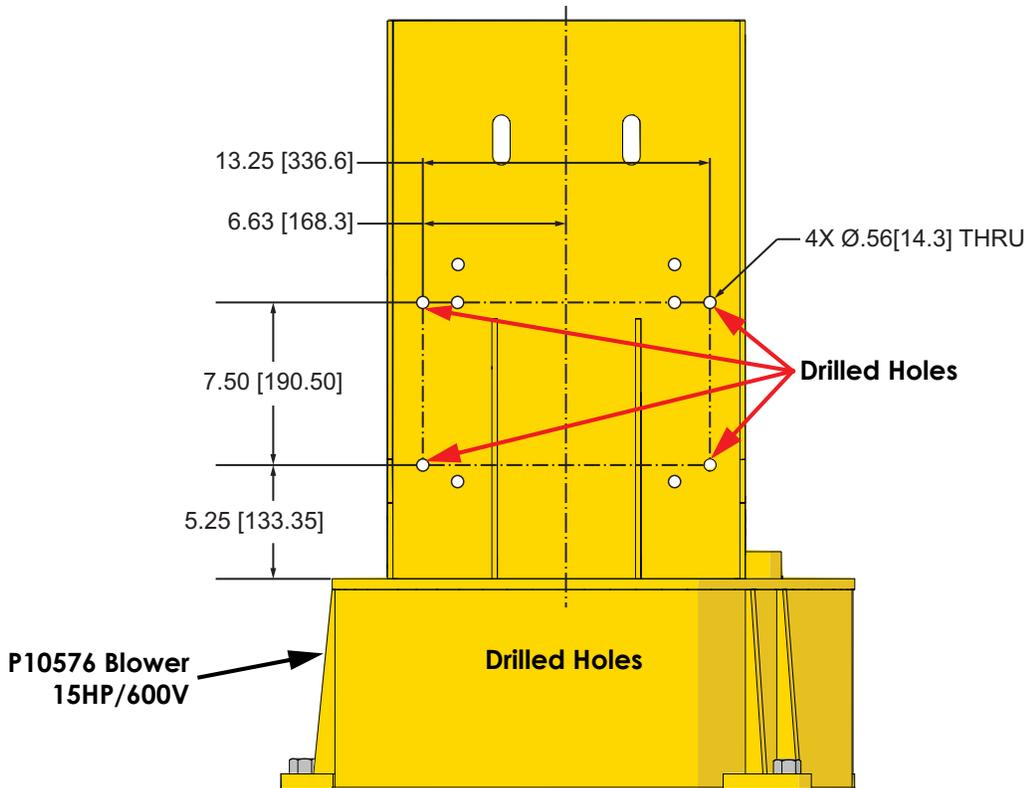
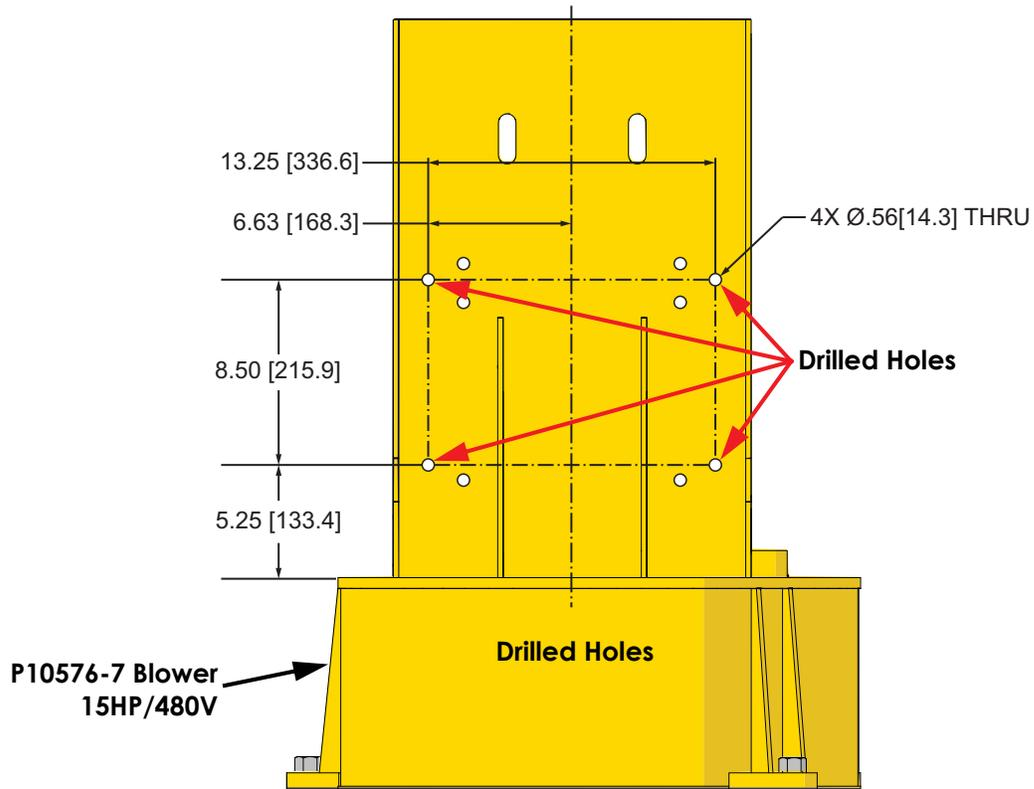

Figure 1: Four holes required to mount U-bolts on P10576 Blower
Figure 2: Four holes required to mount U-bolts on P10576-7 Blower
The blower motor mount will require four (4) drilled holes at locations indicated on Figure 1 for installation of the U-bolts on the P10576 blower and Figure 2 on page 3 for the installation of the U-bolts on the P10576-7 blower.